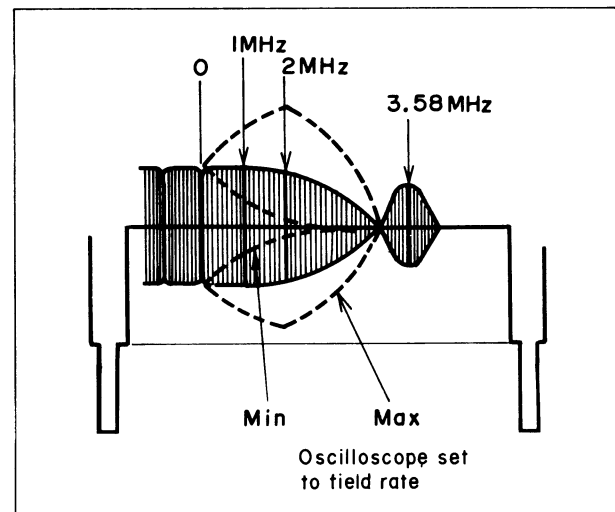

Fig. 5-47. Output waveform
- Adjust R72 (Aperture) so that, as shown in Fig. 5-47, 1MHz signal compared to 100kHz is about -2db.